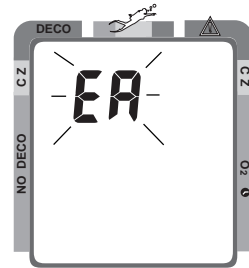

Fig. 58 - EA Mode
- the letters EA appear, flashing (Fig. 58)